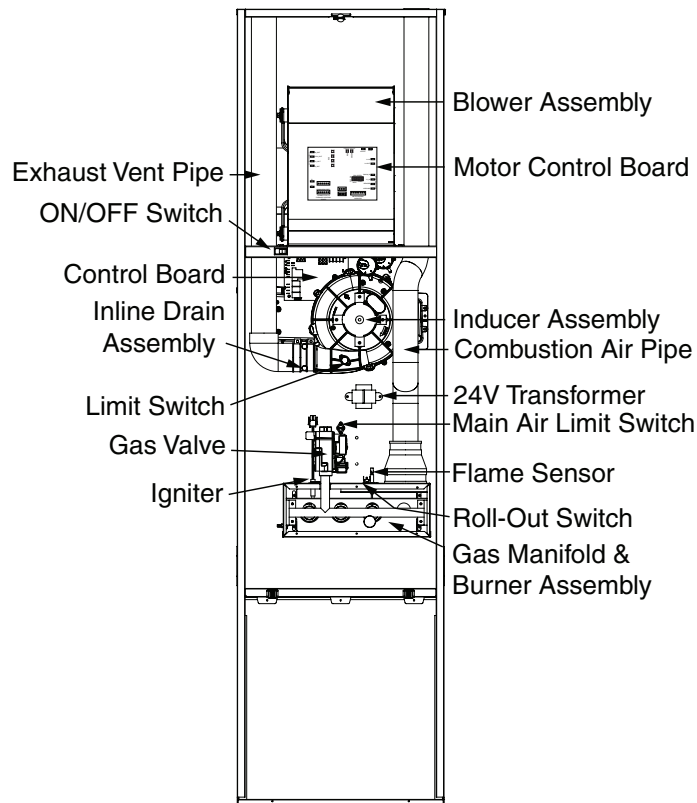

Figure 3. MG2S Furnace Components
2. Is the On / OFF switch (inside the blower compartment) turned on? See Figure 3, \(page 8\).
The furnace components shown in Figure 3 will help identify and locate various parts of the furnace. The component you need to familiarize yourself with is the gas valve. You will use this to turn the furnace on and off. There are no user serviceable parts. All repairs must be done by a licensed HVAC technician.